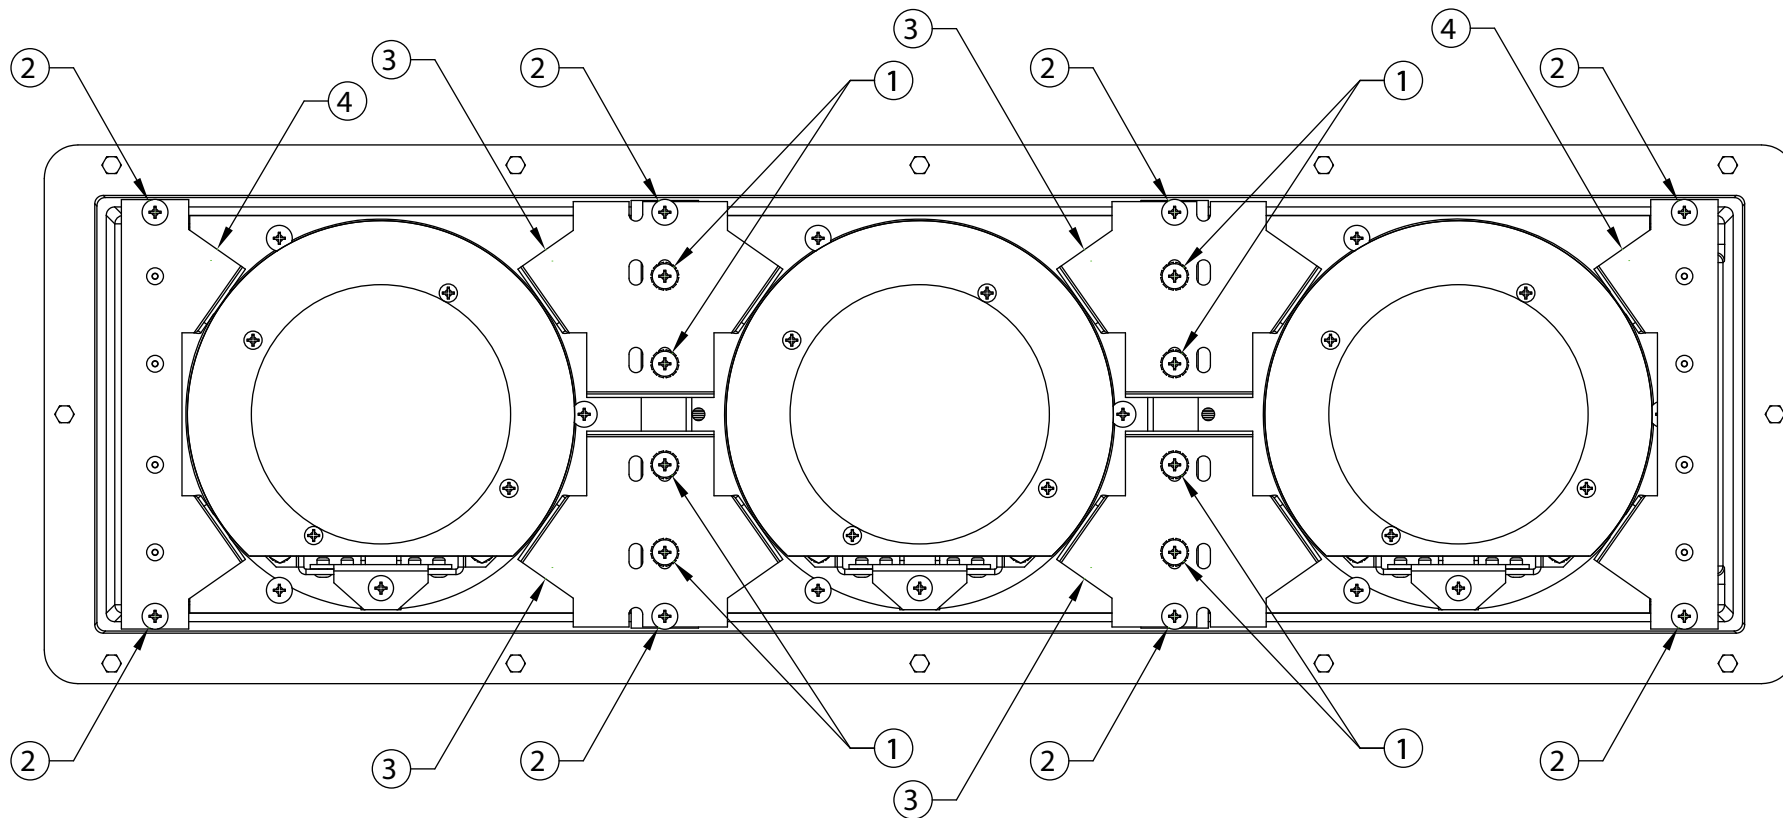

FIGURE 1
2. Loosen screws ①, eight places, see figure 1.
3. Remove screws ②, eight places.
4. Remove shipping restraints ③ and ④. Keep these parts in case fixture has to be shipped back to the factory.